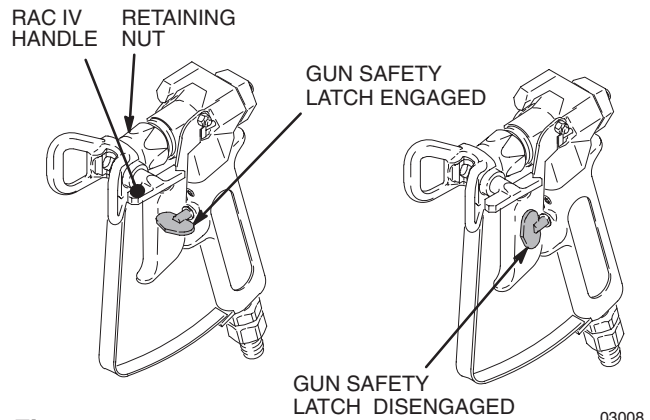

Fig. 5
- a. Open (handle down) pressure drain valve (G). If no secondary hose is installed, be sure secondary outlet cap is installed. Turn ON/OFF (L) switch ON. Slowly turn pressure adjusting knob clockwise until sprayer starts. When fluid comes from drain hose, close pressure drain valve (handle forward).
- b. Fig. 5. Disengage gun safety latch. Following warning, above, trigger gun until all air is forced out of system and paint flows freely from gun.
6. Fig. 5. Engage gun safety latch. Install spray tip. Install tip guard. See manual 308644, supplied.
- Test spray pattern. To adjust pattern, engage gun safety latch, loosen retaining nut. Position tip guard horizontally for horizontal pattern or vertically for vertical pattern. Then tighten retaining nut. Fig. 5.
- If spray tip clogs, release gun trigger, engage gun safety latch, and rotate RAC IV handle 180°. See Fig. 5.